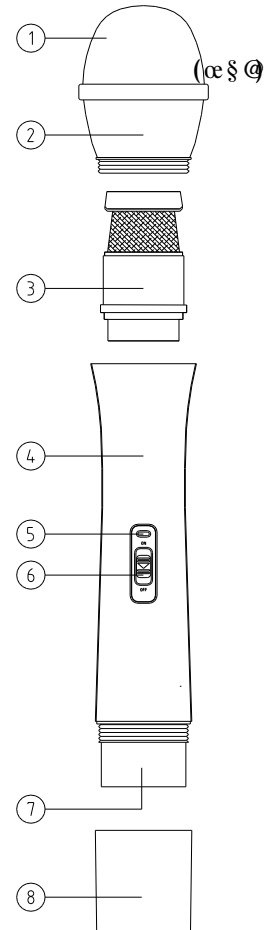

Fig. 1
1. Push down the battery compartment cover (7) to open the battery compartment as shown in Fig. 1.
(fig.1)